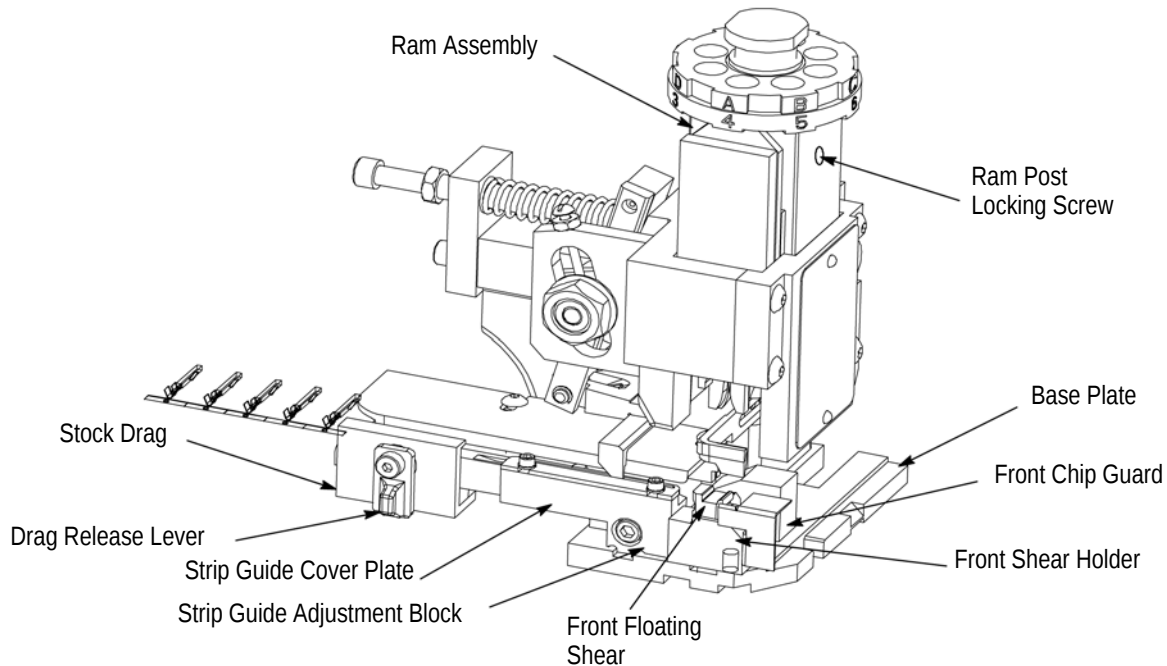
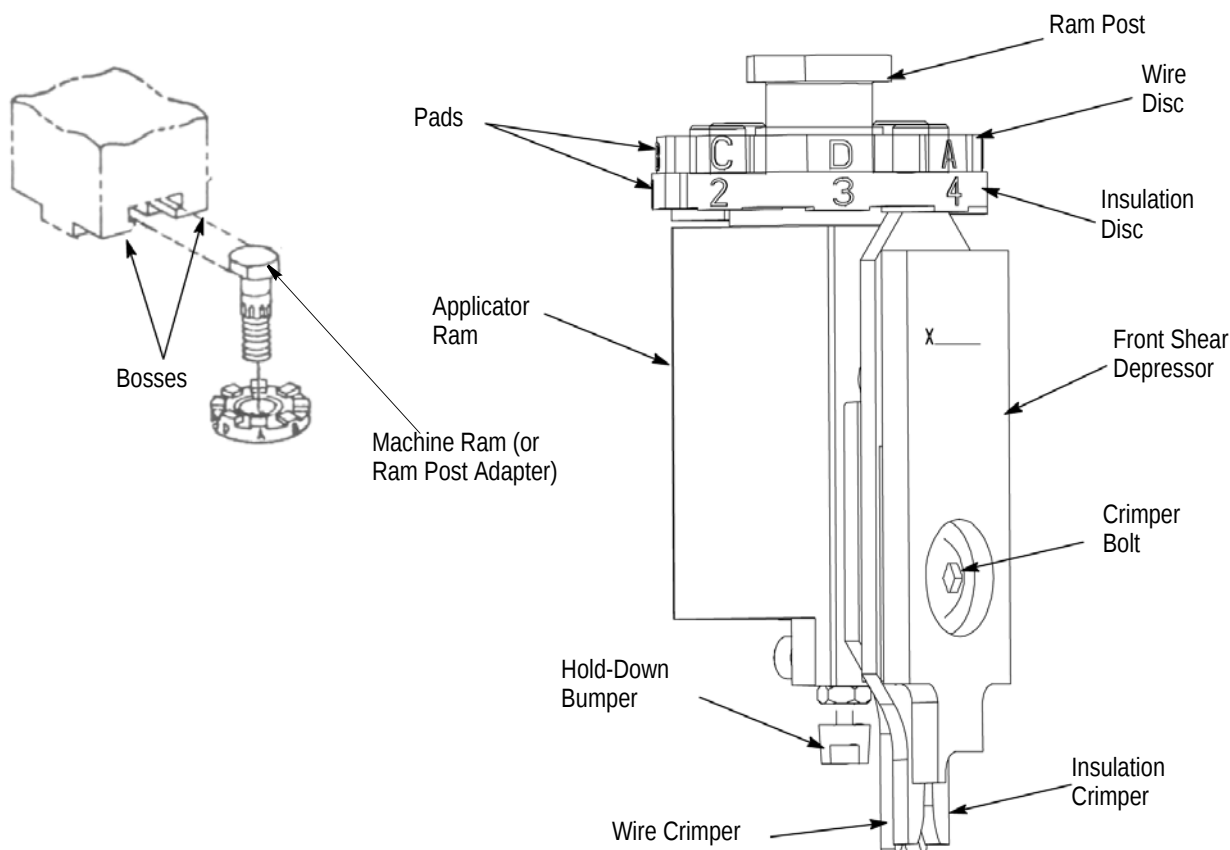

Figure 1
Figure 3
Heavy Duty Miniature Quick-Change Applicator (side-feed type) with mechanical- and air-feed systems apply side-feed strip terminals to pre-stripped wires. Refer to Figure 1. Each applicator accepts the strip form of certain terminals, which are identified on the applicator parts list and exploded view drawing (Applicator Log) for each applicator. The terminal listed on the data plate is the one that was specified when the applicator was ordered. Some terminals have two carrier strips, others just one.
The main components of the applicators with mechanical feed are identified in Figures 1 and 2. The ram assembly is shown in detail in Figure 3.
Just below the ram post are the wire disc and the insulation disc. The wire disc has as many as four pairs of pads, depending on the number of different wire sizes the terminals will accept. Each pair of pads has a different height. By rotating the disc, each pair of pads can be lined up with the two bosses on the ram post adapter (see Figure 3) to change the length of stroke of the wire crimper over the anvil. The insulation disc contains eight pads of different heights. When this disc is turned, the pads line up with the top of the insulation crimper to change the insulation crimp height.
2. Turn wire disc (upper disc) to line up selected pad letter with BOSSES ON MACHINE RAM (or RAM POST ADAPTER). See Figure 3. This provides the right crimp height for that wire size.